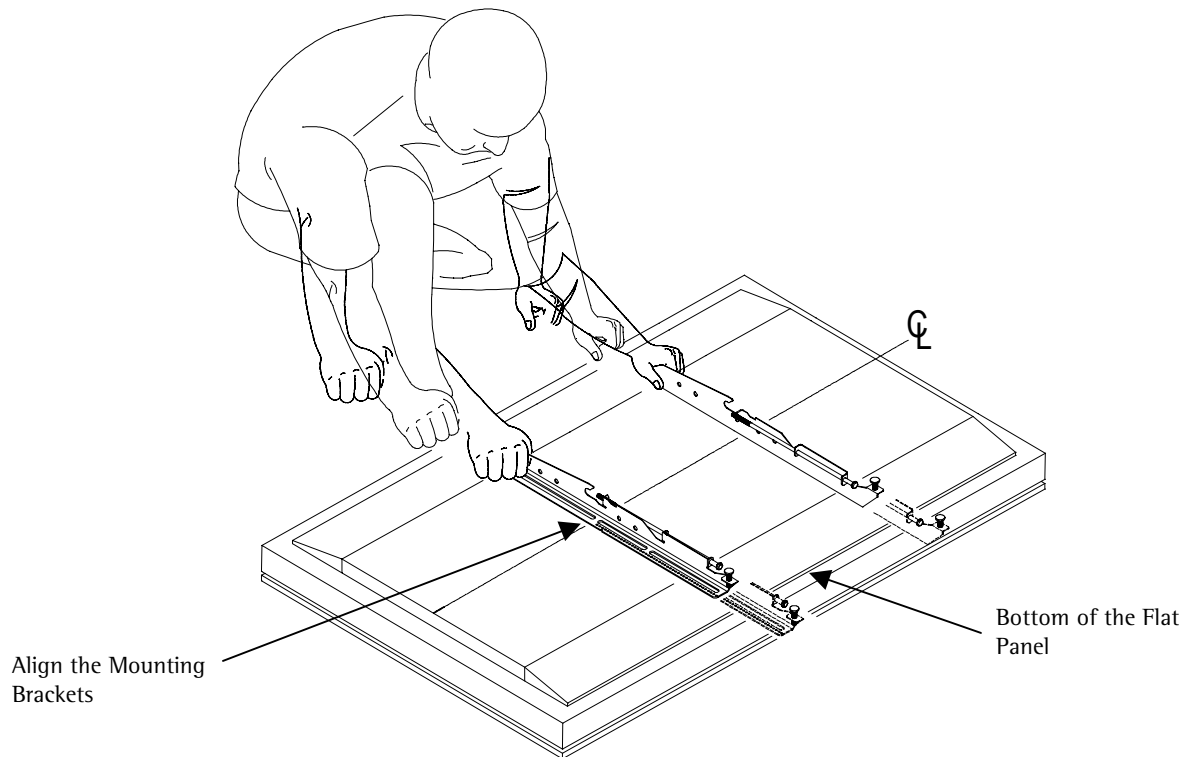

Figure 6. Adjusting the Mounting Brackets
3. Match the center of the viewing guide with the centerline you marked in Step 1 (Figure 6).